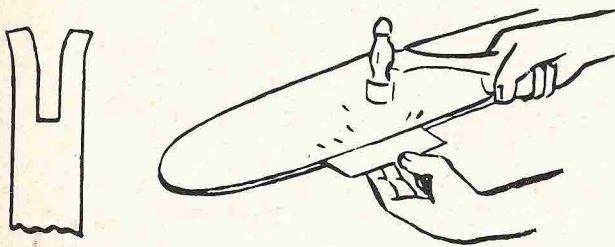

Fig. 24—Closing spread guide rails. Use steel shim .004" thicker than drive link tangs.
**GUIDE BAR REPAIRS.** If guide rails of bar are spread, they may be closed as shown in Fig. 24. Lay the bar on a flat piece of heavy iron or on a large smooth anvil. Insert a shim of steel, about six inches long and .004" thicker than the drive tangs of the chain,